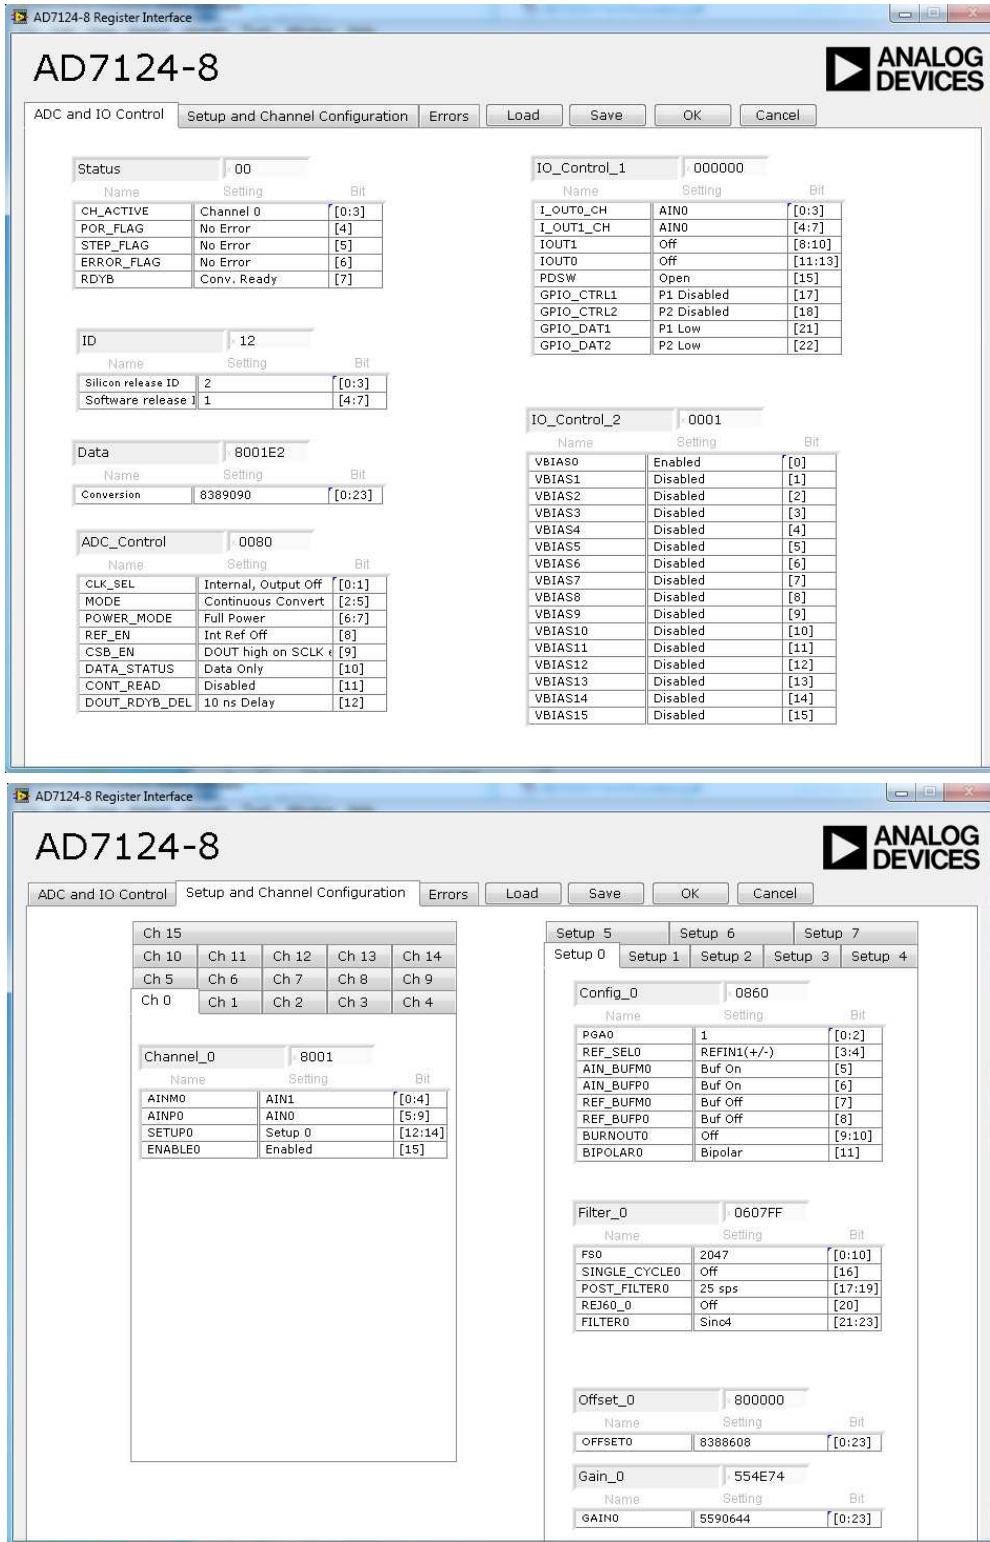
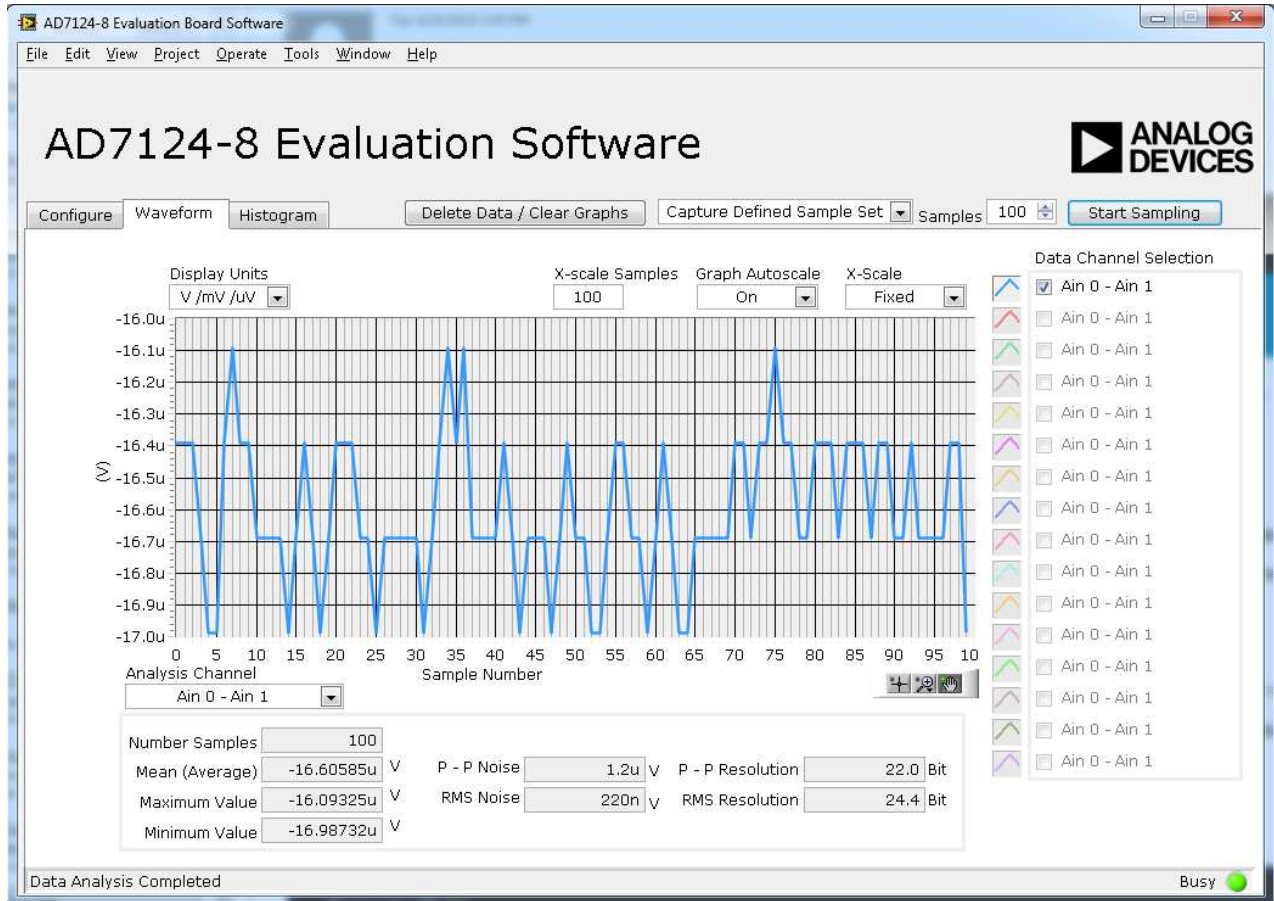

Figure 17. Configuration for Noise Test
Figure 18. Example of the Main Window After Running a Noise Test
2. Figure 17 shows the contents of the **AD7124-8 Register Interface** and the state of the AD7124-8 registers. Click **OK** to return to the main window. Figure 18 shows an example of the main window after running a noise test.